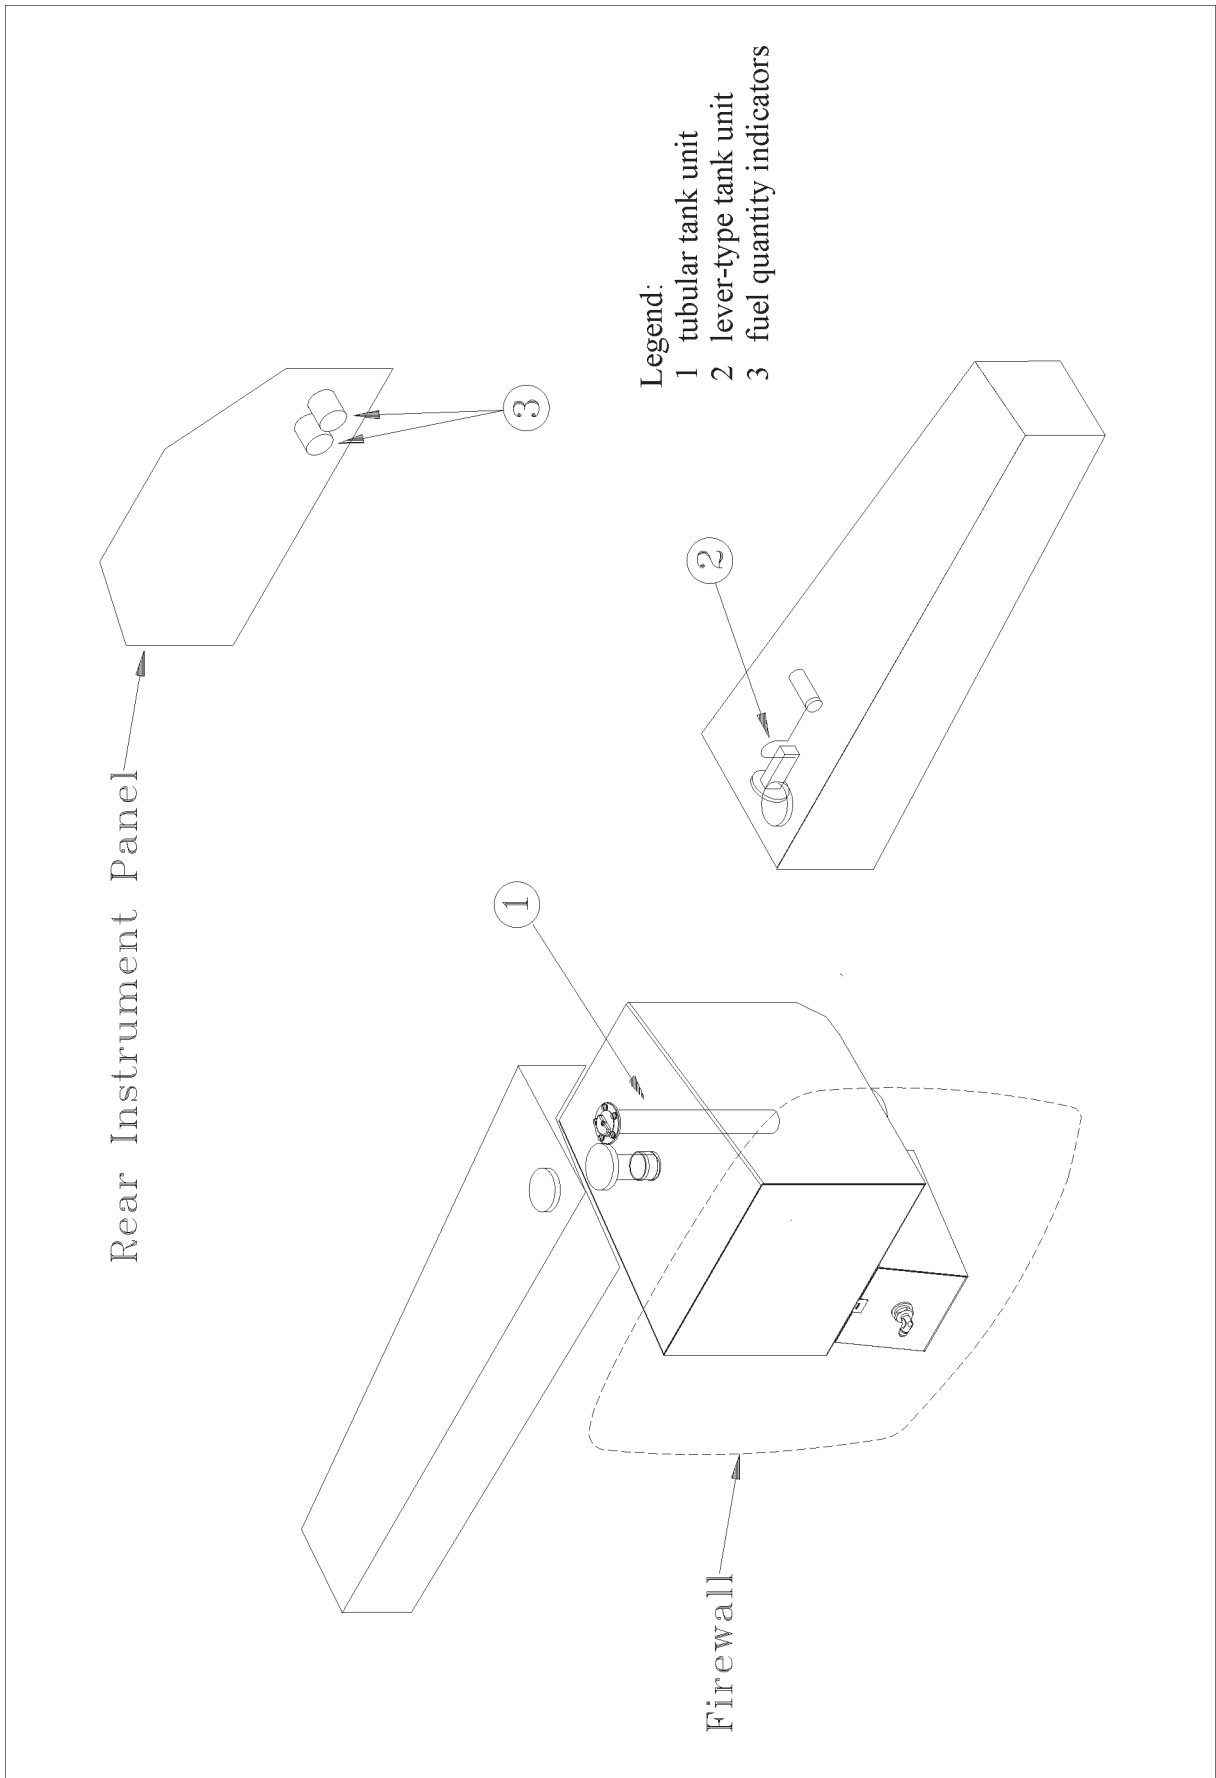

Figure 11
(Refer to figure 11) For fuel contents indicating the center tank is equipped with a tubular fuel quantity transducer (1) and the left wing tank with a lever-type fuel quantity transducer (2).